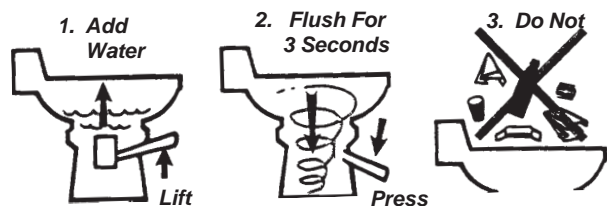

Figure J6: VacuFlush Operations
The VacuFlush toilet operates in a different way from other marine toilets. VacuFlush systems use a small amount of water (a little more than a pint) per flush in addition to a simple vacuum. The toilet is connected to the fresh water system. Fresh water is the key to an odor free bathroom compartment. VacuFlush toilets are equipped with an intergrade vacuum breaker which prevents the possible contamination of the potable/fresh water supply. See Figures J6 & J7. Also, refer to the manufacturers literature included in the owner's packet.
1. To add water to the toilet before using, raise flush lever until desired water level is reached. Generally, more water is required only when flushing solids. See Figure J6.